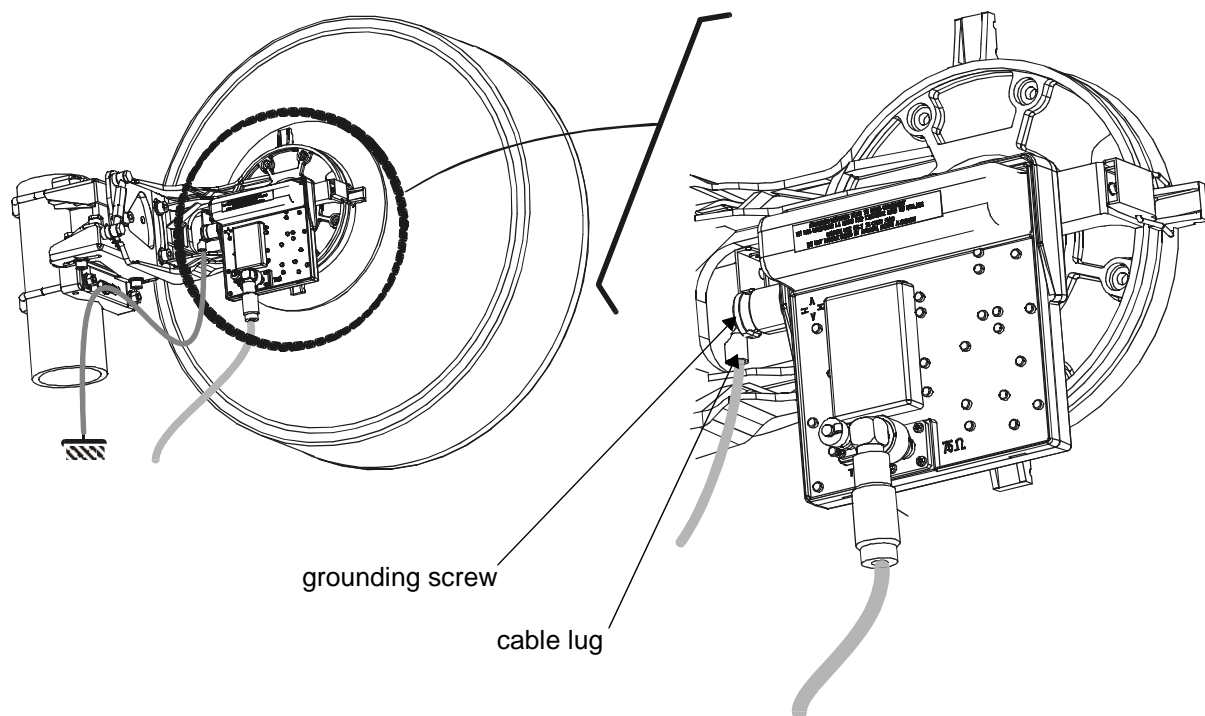

Figure 70 – Grounding the RT unit
- On the RT unit, the ground terminal is in the form of a tapped hole (see *Figure 70 – Grounding the RT unit*).